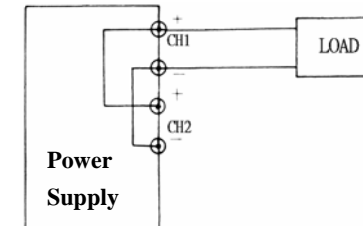

Fig. 5-5 Parallel Tracking Operation
- G. Connect the negative polarity of the device being powered to the black (-) terminal of the CH1 power supply. The configuration is shown as Fig. 5-5: